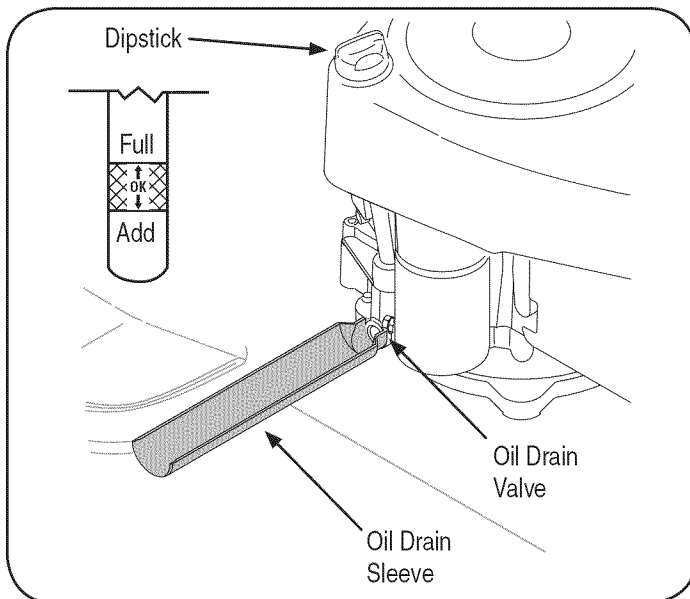

Figure 10
3. Remove the dipstick and check the oil level. It should be at the Full mark on the dipstick. See Figure 10.
2. Remove the oil fill cap/dipstick from the oil fill tube. See Figure 10.